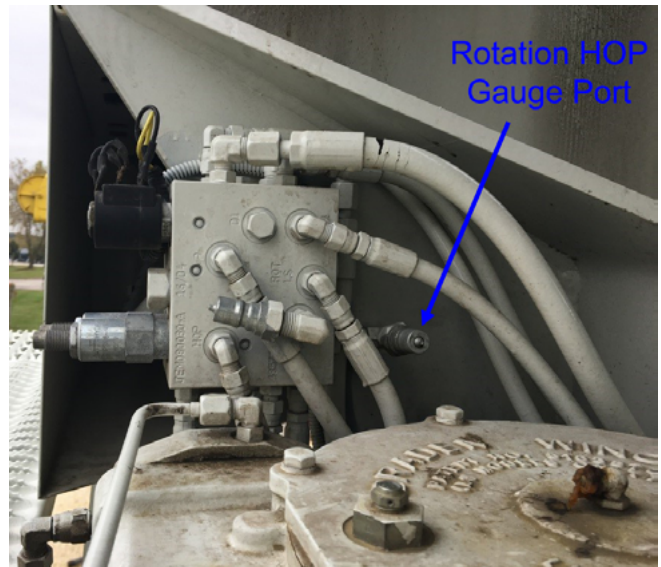

FIGURE 2
- Use test coupler G2 on combined HOP manifold for Rotation HOP **Figure 2**